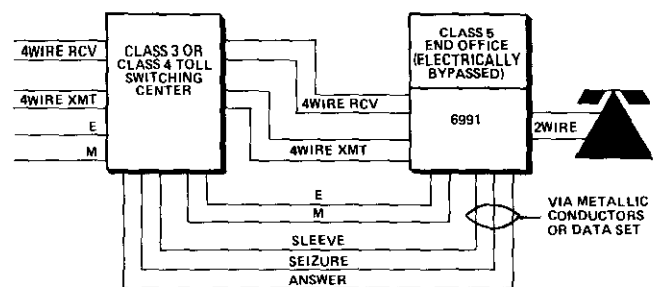
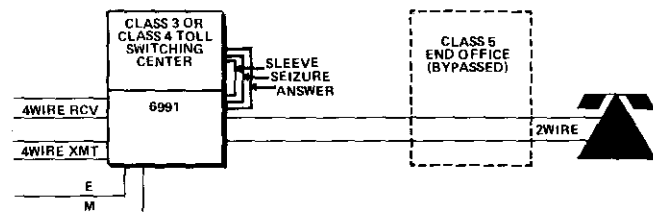

figure 2. 6991 located in Class 5 end office
figure 3. 6991 located in Class 3 or Class 4 toll switching center
2.02 The 6991 module can be physically located in either a Class 5 end office (figure 2) or in the toll office (figure 3). Because WATS lines are usually high-usage lines, their routing through a Class 5 switch can cause blocking. With the 6991, the switch at the Class 5 end office can be bypassed, and the WATS customer can be connected directly to a 4wire E&M trunk going to a Class 3 or Class 4 toll office.